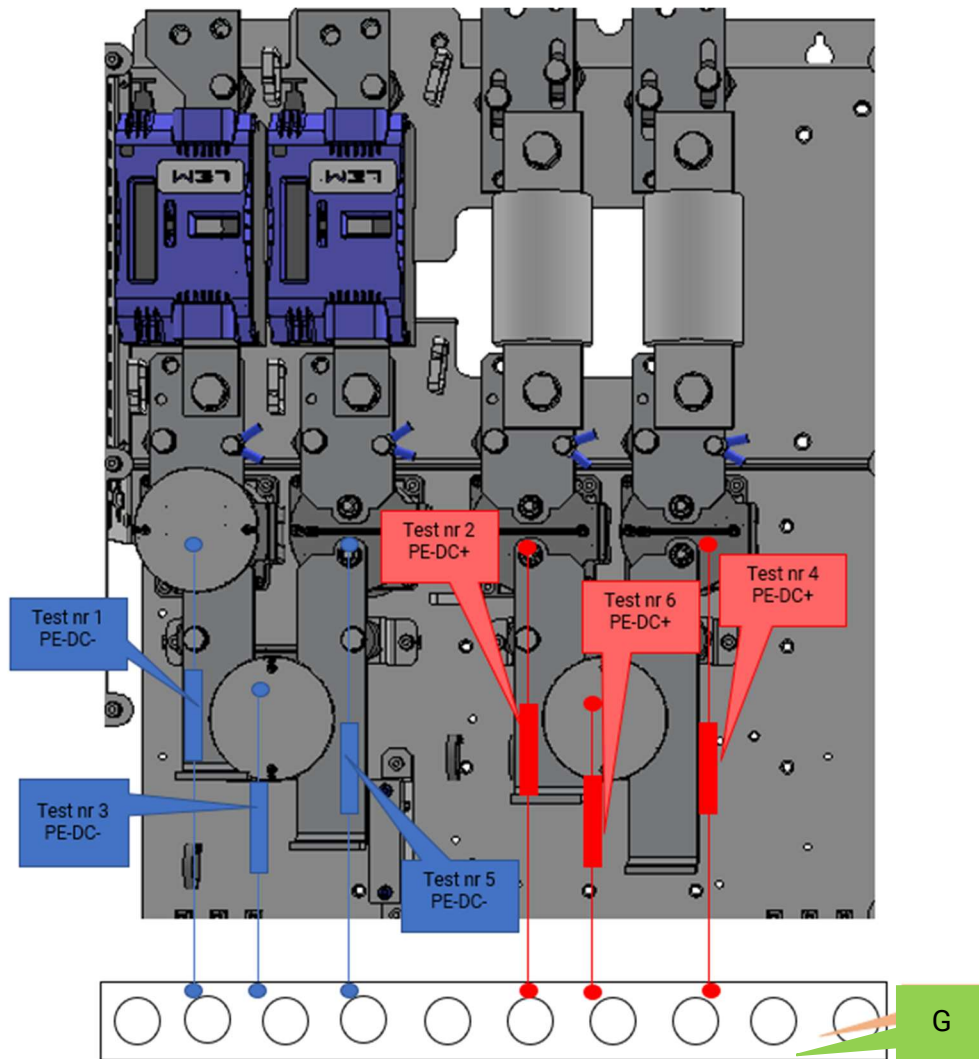

Figure 31 Insulation resistance tester performance test
- connect the resistors at the test points and perform the tests (*Figure 31*).